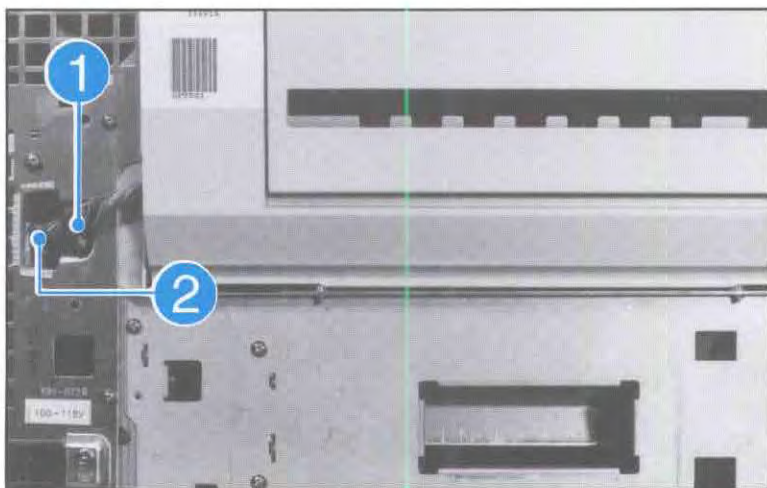

Figure 6-40. Top Cover Assembly
4. Unlatch (1) cable clamp (see Figure 6-40, callout 1).
5. Disconnect (1) cable from the AC Power Inlet Assembly (see Figure 6-40, callout 2). (continued on next page)
1. Remove the Top Cover Assembly (see Figure 6-40).